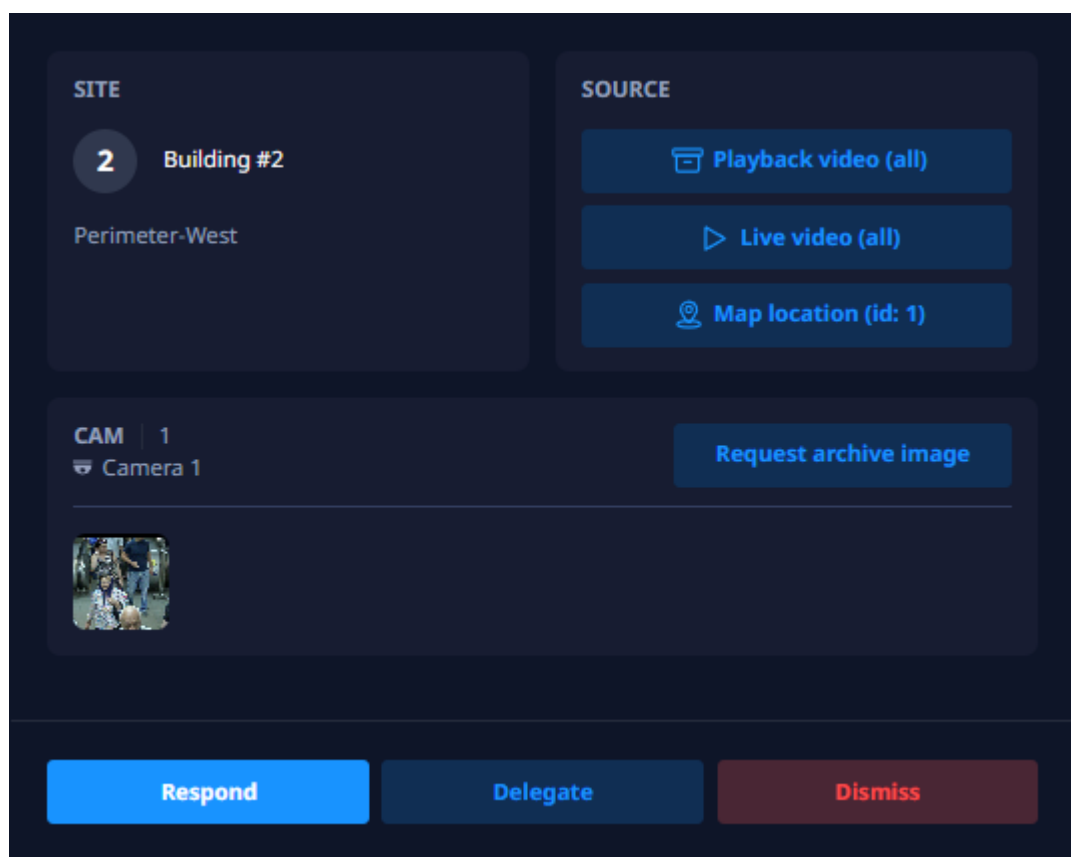

Figure 15. Requested archive image
- **Request archive image** – click to display the archive frame at the time of the incident's occurrence. A thumbnail will appear below. Clicking on it will open the full-size image (see Figure 15). Information about the *Camera* from which the frame was received is located to the left of the button.